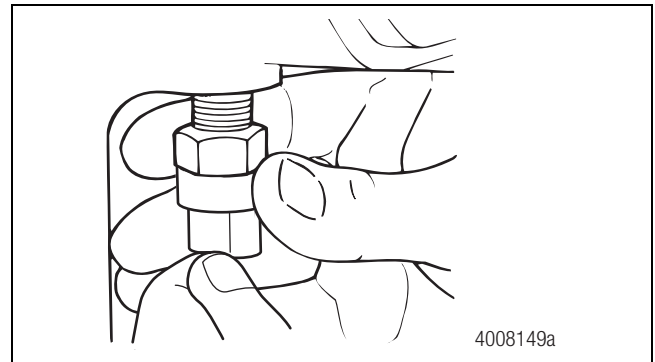

Figure 6
1. Remove the sensor switch. Figure 6.